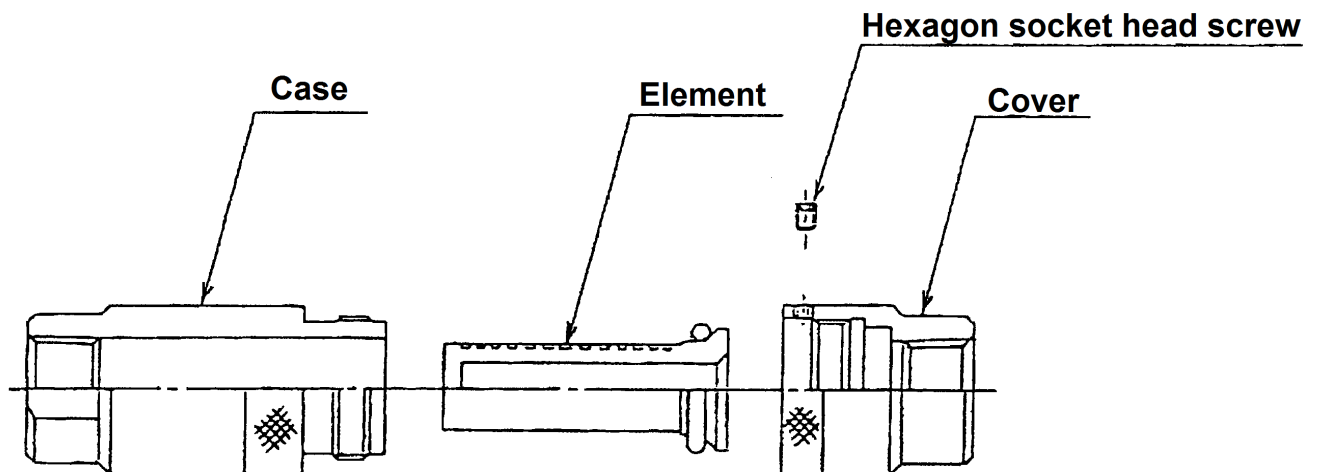

Fig. 1
2. Disassemble the product. (Fig. 1.)